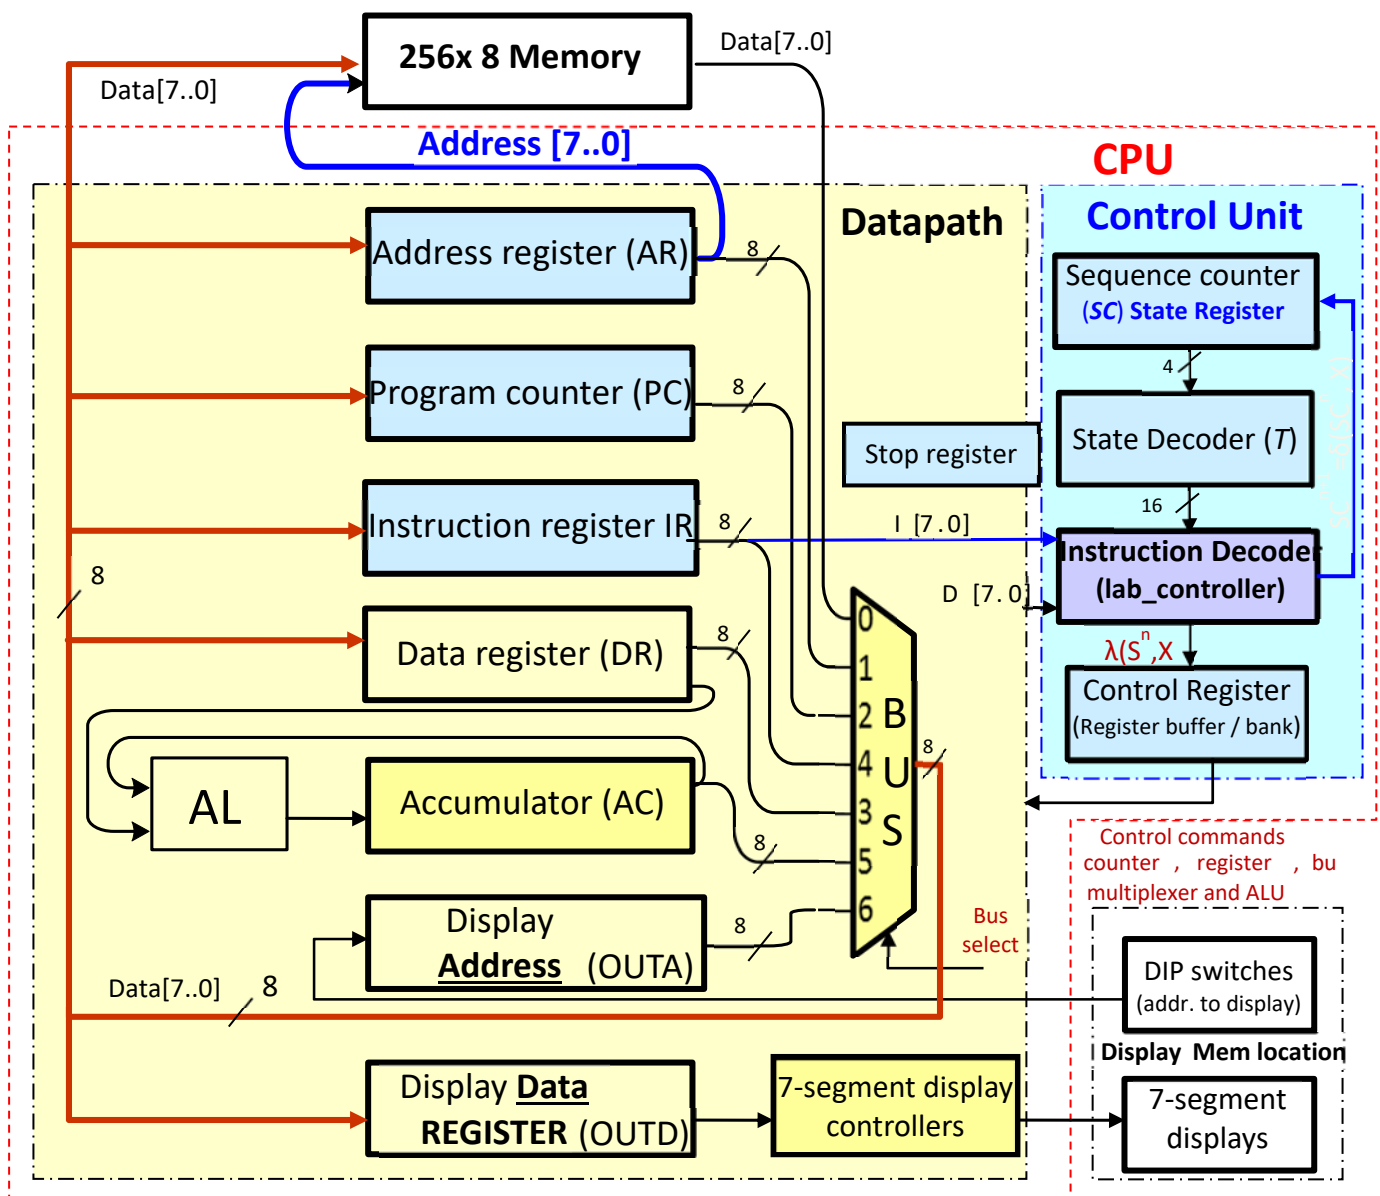

Figure 1: Computer block diagram
The block diagram of your computer is presented in Figure 1. The *.bdf* files of all the component blocks, except the *Instruction Decoder* (*lab_controller* of CU), will be provided. The *Control Unit* functions in accord with a time sequence which is generated by the *sequence counter* (SC) that plays the role of *FSM state register*. The SC initial state is 0; it restarts counting from 0 at the beginning of each instruction of a program and it is reset to 0 once that instruction is finished. A decoder converts the 4-bit output of the SC into time-signals, distinct for each possible output (for example, when the SC output is 0010, then the T_2 output of the decoder will go high, if not, it will remain low for any other combination); this combination of the SC and its decoder implement a *One-hot encoded state register*. The *control commands* for the Datapath are synthesized by the *Instruction Decoder* as (FSM output) functions in terms of the contents of the IR, DR and other signals from the Datapath; a set of gates (AND, OR, and NOT) forms the *Instruction Decoder*. As some CU outputs are of Mealy type, a *bank of buffer registers* (*Control Register*) is used to insure a duration of one clock period for the *control commands* that are generated by the CU, and to synchronize them with the system clock.